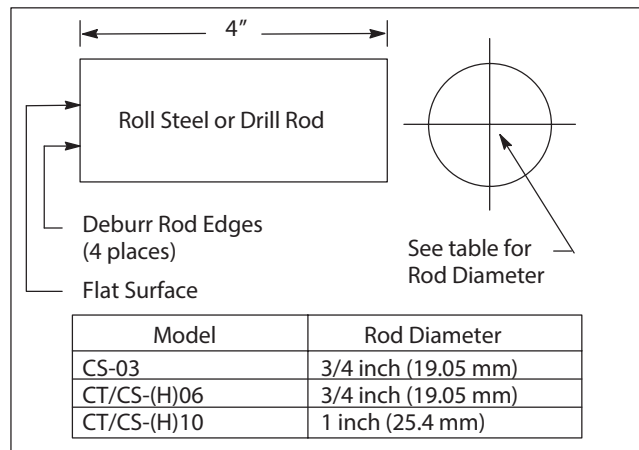

Figure 3. Disassembly Tool to Remove Seat (19) from Body (21)
1. A piece of drill rod or roll steel to remove the seat within the valve body. See Figure 3.
8. Remove four screws (13) from cover (14), then disassemble the cover from body (21).
9. Remove parts (15) through (18) from body (21). Inspect piston (18) sealing surface for heavy scratches and other damage. Discard seal (15).
10. If piston (18) is damaged, turn valve body (21) in vise so tank port faces up. Insert a rod (reference Figure 3) into the tank port against seat (19.) Tap on rod end with hammer and remove the seat (19) from body (21). For C*-H**-30/50 models, insert rod against sleeve (20) and remove sleeve and seat at the same time.